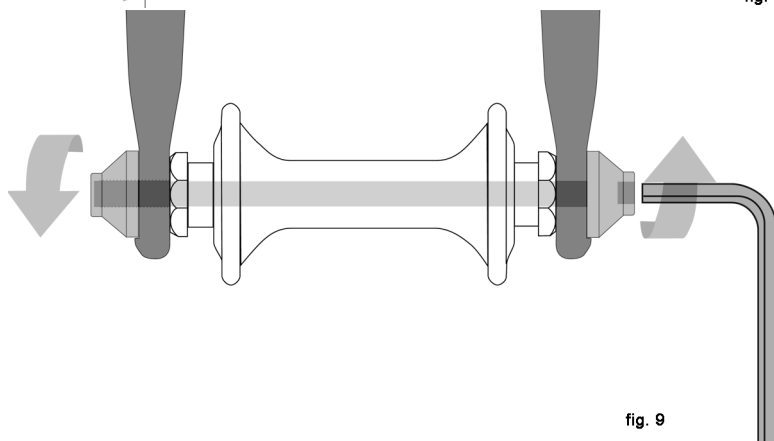

fig. 9
2. A hollow axle with a shaft ("skewer") running through it which has a nut on one end and a fitting for a hex key, lock lever or other tightening device on the other (through bolt, fig. 9)